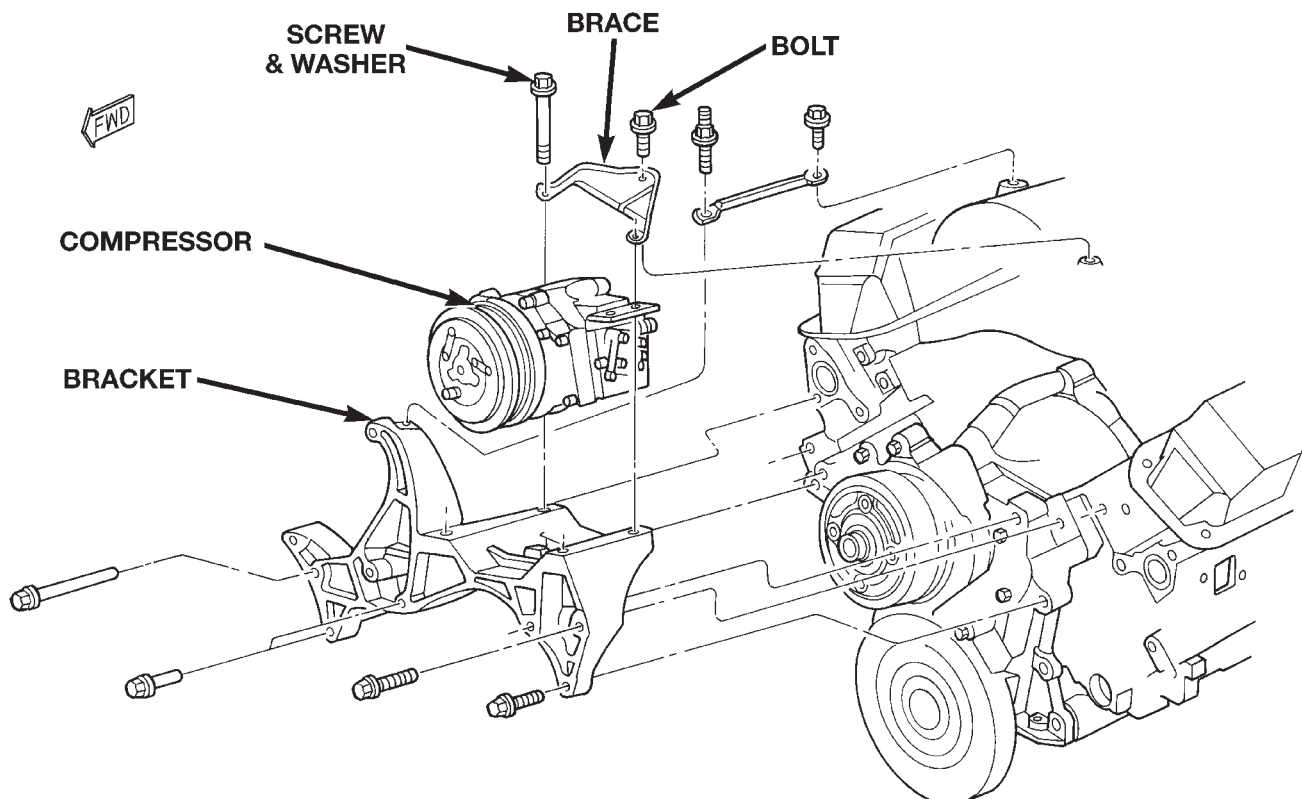

Fig. 18 Compressor Remove/Install - Gasoline Engine
(3) Remove the serpentine drive belt. Refer to Group 7 - Cooling System for the procedures.
(4) Unplug the compressor clutch coil wire harness connector.
(5) Remove the suction and discharge refrigerant line manifold from the compressor. See Suction and Discharge Line in the Removal and Installation section of this group for the procedures. Install plugs in, or tape over all of the opened refrigerant line fittings.
(6) Remove the four screws that secure the compressor to the mounting bracket (Fig. 18) or (Fig. 19).